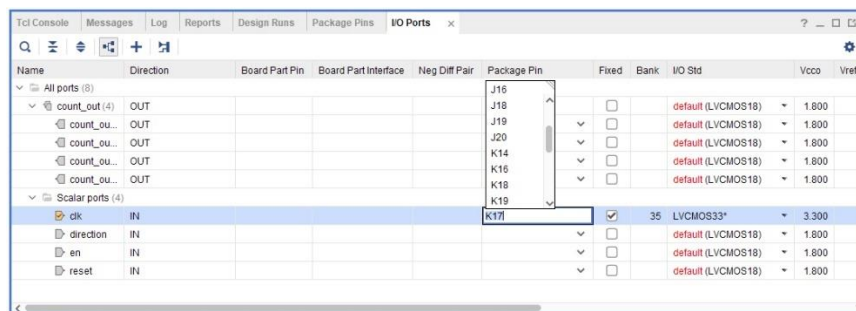

Figure 34
4. Locate and select the **clk** input signal under **Scalar Ports**, then attribute to this signal the pin location **K17** (CLK125 signal on the Zybo Z7-10 board - see the Zybo Z7-10 Board Reference Manual to know the pin assignment in the board) by writing **K17** (or selecting it from the list) in the **Package Pin** column (Figure 34), as **I/O Std** → **LVCMOS33** and as **Vcco** → **3.300** (this last value should change automatically after changing the **I/O Std** value)